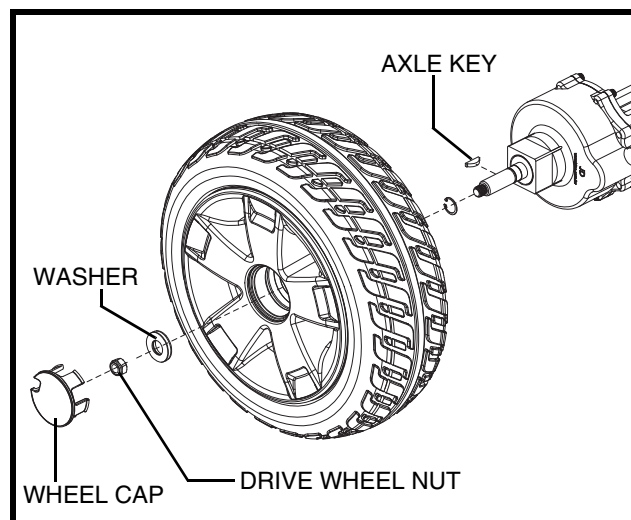

Figure 24. Solid Tyre Wheel Removal
3. Remove the wheel cap, drive wheel nut, and washer from the axle. See figure 24.